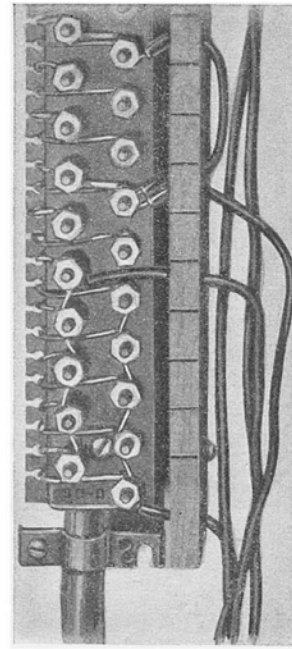

FIG. 18—USE OF WIRE IN STRAPPING BINDING POSTS
10.02 Wire may be used to strap binding posts, as shown in Fig. 18. The same type of wire used in the wiring of the terminal is suitable for strapping binding posts. Insulation should be entirely removed from the wire when strapping consecutive binding posts. When nonconsecutive binding posts are strapped, the insulation should be removed from the strapping wire only at the binding posts, and the wire should be run through holes in the fanning strip (if provided) or through holes in the side of the inside wiring terminal which serve as a fanning strip.